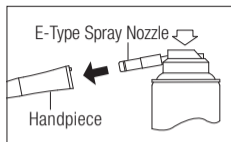

Fig. 7
- 2 Insert the E-Type Spray Nozzle into the rear of the handpiece. Hold the handpiece and spray for approximately 2-3 seconds. Apply lubricant until it expels from the handpiece head for at least 2 seconds (Fig. 7).
- 3 Lubricate handpiece by using PANA SPRAY Plus (Fig. 7) or automatic handpiece cleaning and lubrication system.